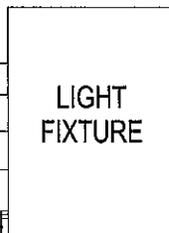

FIG. 3
3. Attach the appropriate wires to the light fixture wires, Green to Green, Black to Black and White to White (Fig. 3). Secure each wire pair with a wire nut.